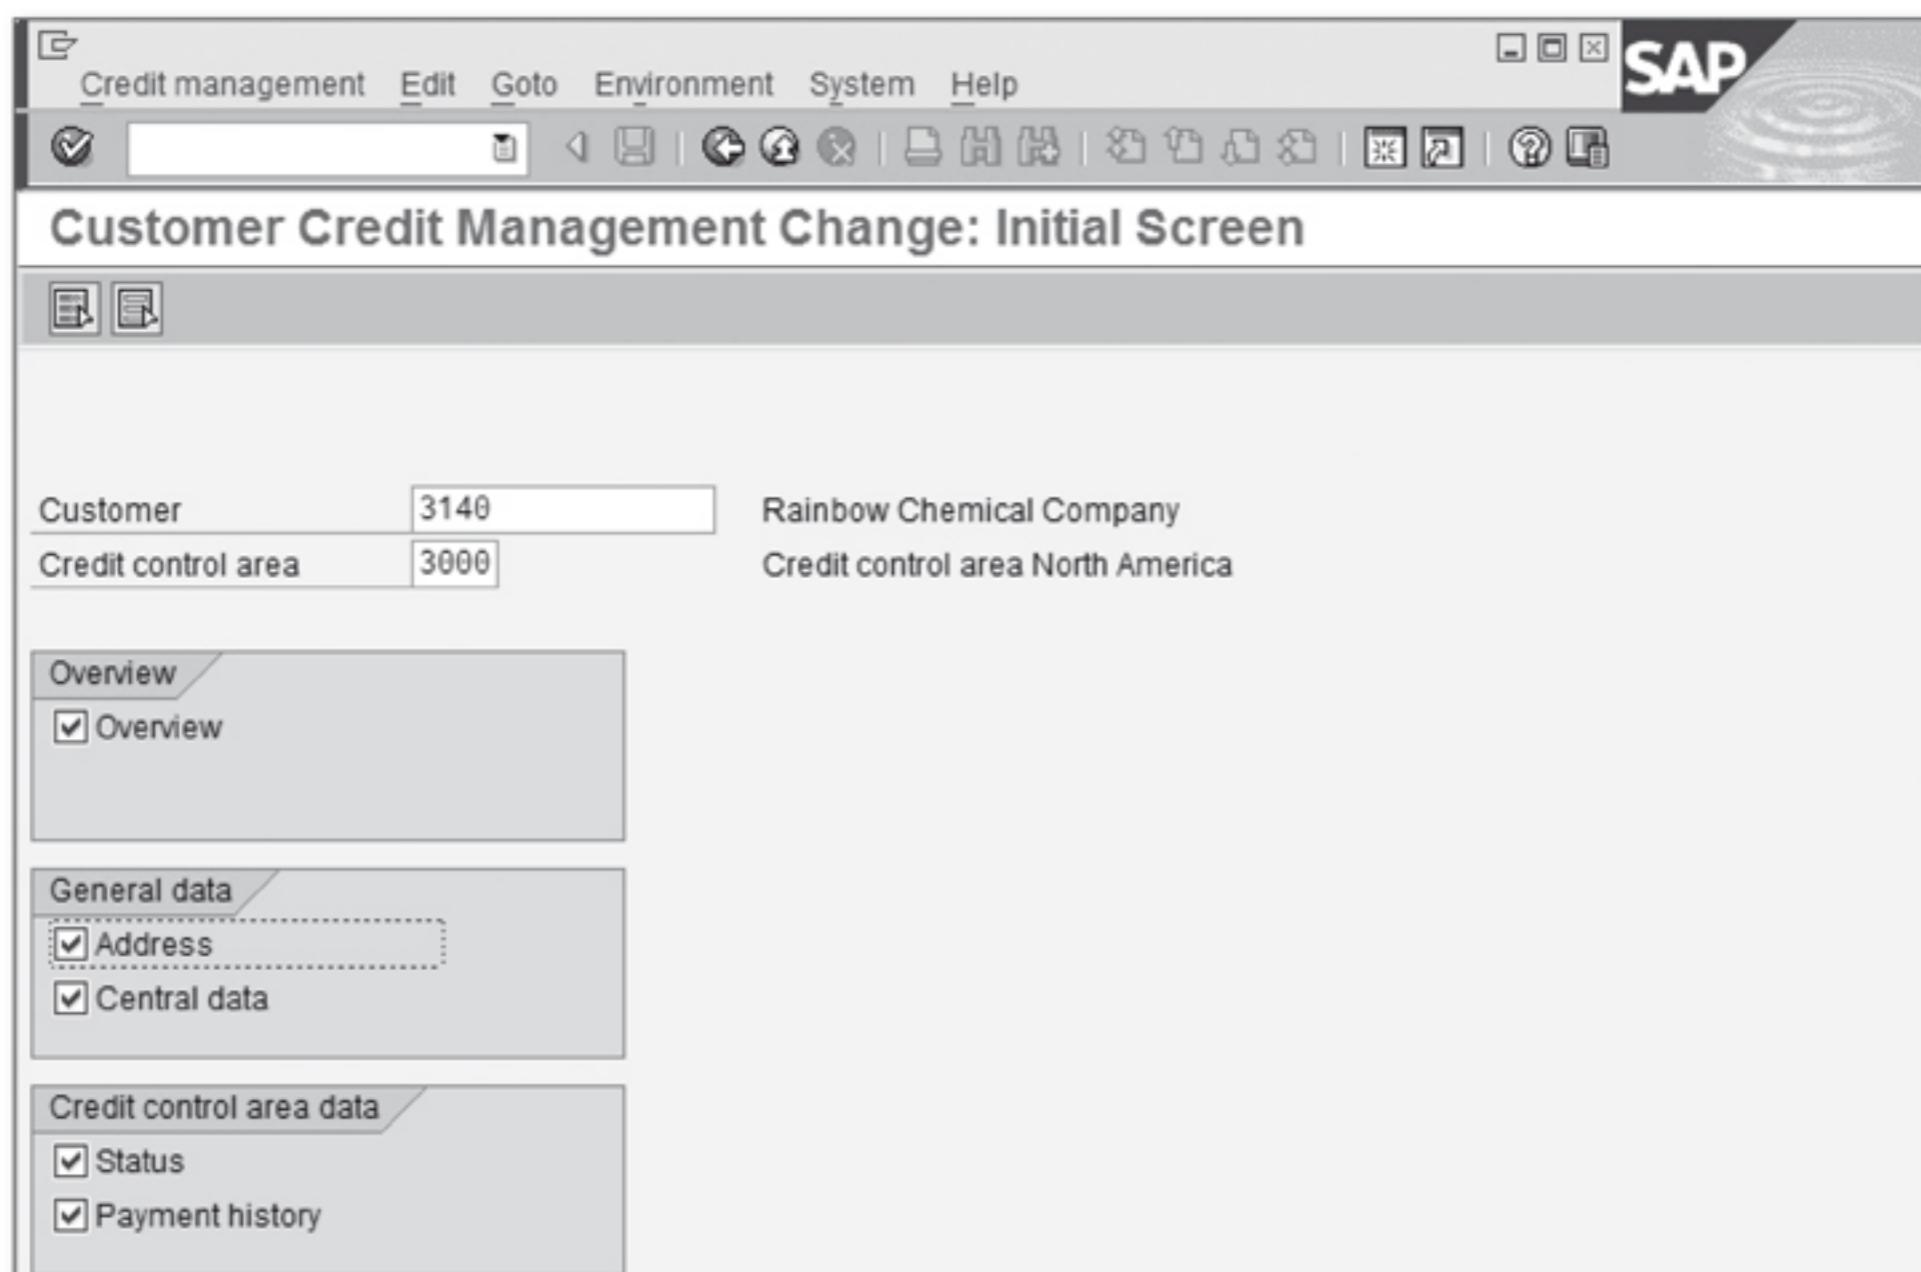

Figure 3.33 Customer Credit Management Change – Initial Screen
1. On the initial screen, enter your customer account number and credit control area. Also, select data sections that you're going to maintain, as shown in Figure 3.33, and press **[Enter]**.